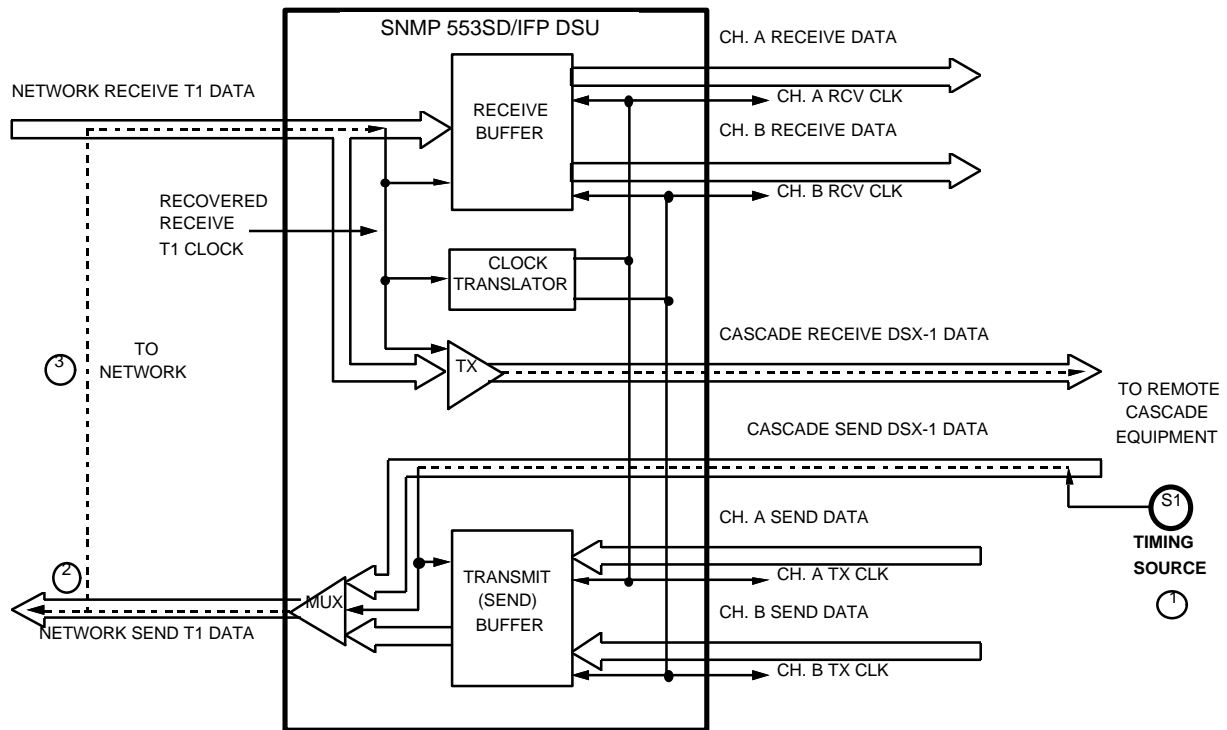

Figure C-9 Cascade Timing with a Cascade Timing Source
As illustrated in *Figure C-9*, the remote cascade equipment provides the timing source (1), instead of the network. All timing and data handling functions internal to the SNMP 553SD/IFP DSU operate as they would with network timing, and the remote DSU uses the imbedded timing as its reference (2) and loops it back to the local DSU (3).